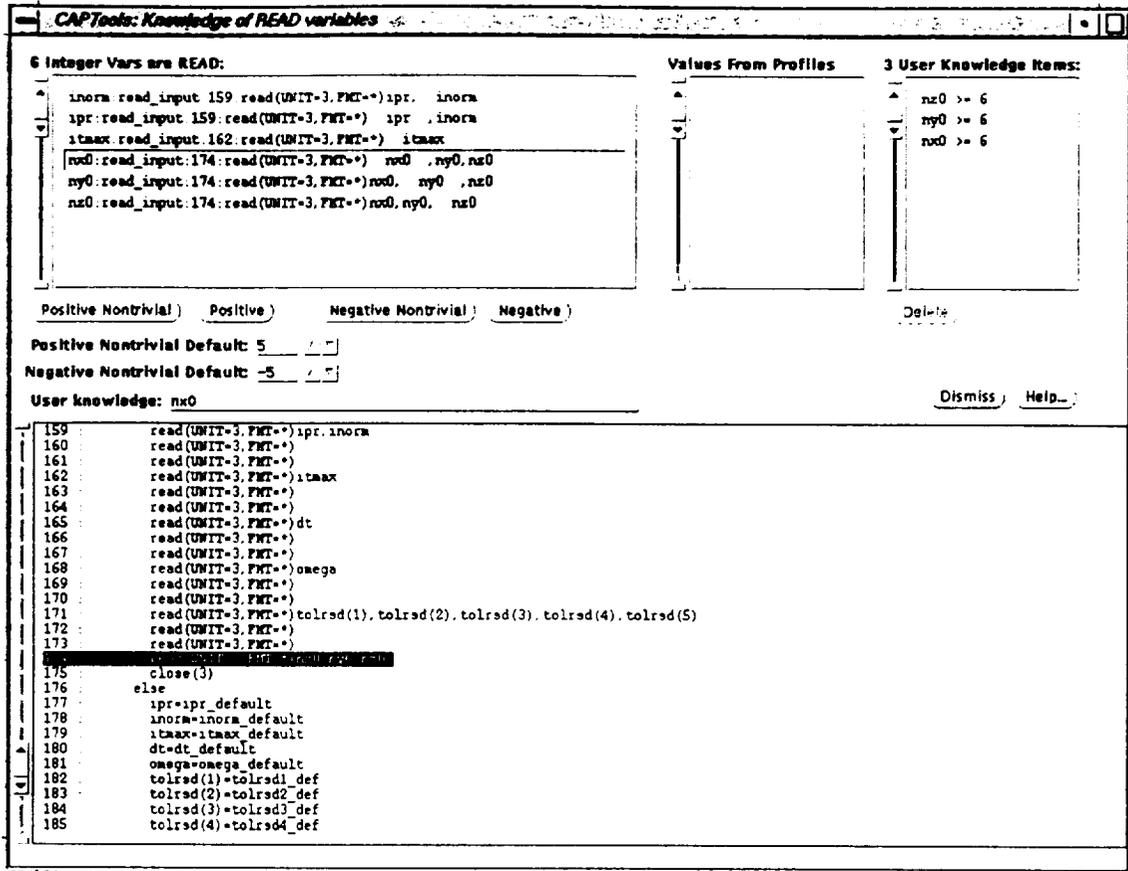

Figure T2-1: The READ Knowledge window for entering initial user knowledge.
- 1. Load file and enter user knowledge.** Click *Load F77 Source* in the File menu. Select All.list and click the **Load** button. Select *READ Knowledge* from the Edit menu. In the READ Knowledge window, select variable nx0 and click **Positive Nontrivial**, see Figure T2-1 on next page. Apply the same steps to variables ny0 and nz0. These three variables define the number of grid points in each dimension. Making them positive nontrivial (> 5 in the current case) improves the quality of data dependence analysis.